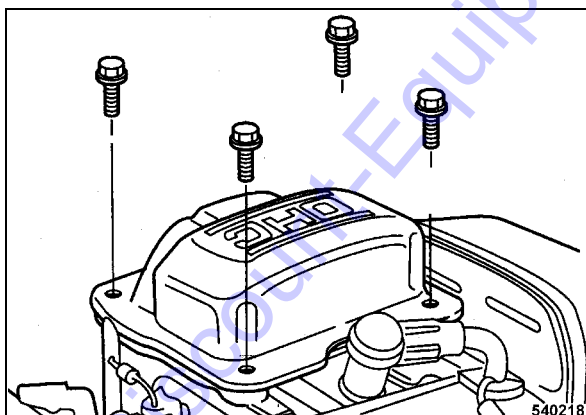

Fig. 42
- Unscrew the fastening screws for the cylinder head cover (Fig. 42).